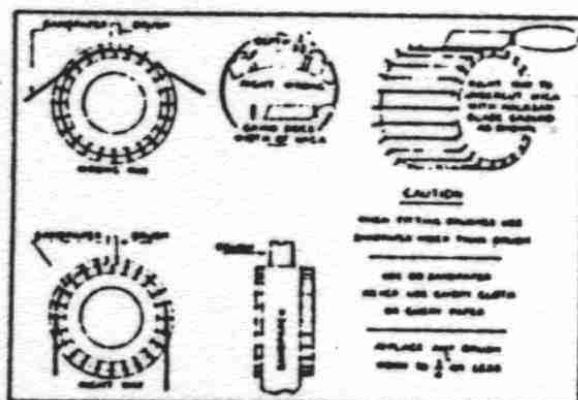

FIG. 38 CARE OF COMMUTATOR AND BRUSHES
(2) **Sanding Brushes.**—Sand new brushes to a good seating contact. This may be done by drawing a strip of No. 00 sandpaper around the commutator, sanded side out, while the brush rests on the sanded surface of the paper with normal spring tension. See (Fig. 38). Make sure that the sandpaper contacts a large area of the commutator both directions from the brush. Draw the sandpaper in the normal direction of armature rotation. Raise the brush for the return stroke. Repeat until a proper seating surface is obtained. Slip ring brushes are sanded in the same manner.
A badly worn, burned or pitted commutator will require refinishing in a lathe. After refinishing the commutator, or whenever the copper has worn down flush with the mica insulation which is between the bars, the mica must be undercut $1/32$ " as shown in (Fig. 38). These operations should not be attempted by unauthorized personnel.